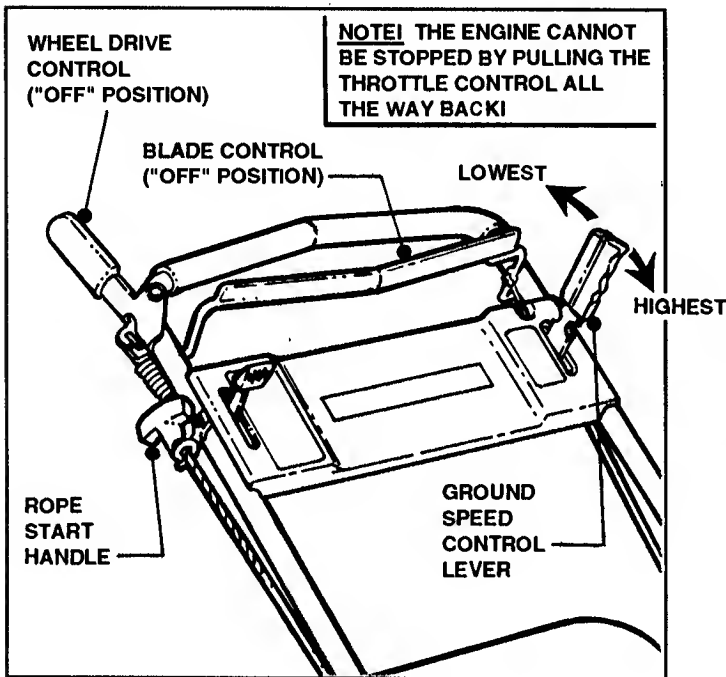

FIGURE 2.1
- ENGINE: **STOP ENGINE** by releasing the BLADE CONTROL. See Figure 2.1.
3. Pull ROPE START HANDLE until engine starts. Refer to Figure 2.1.